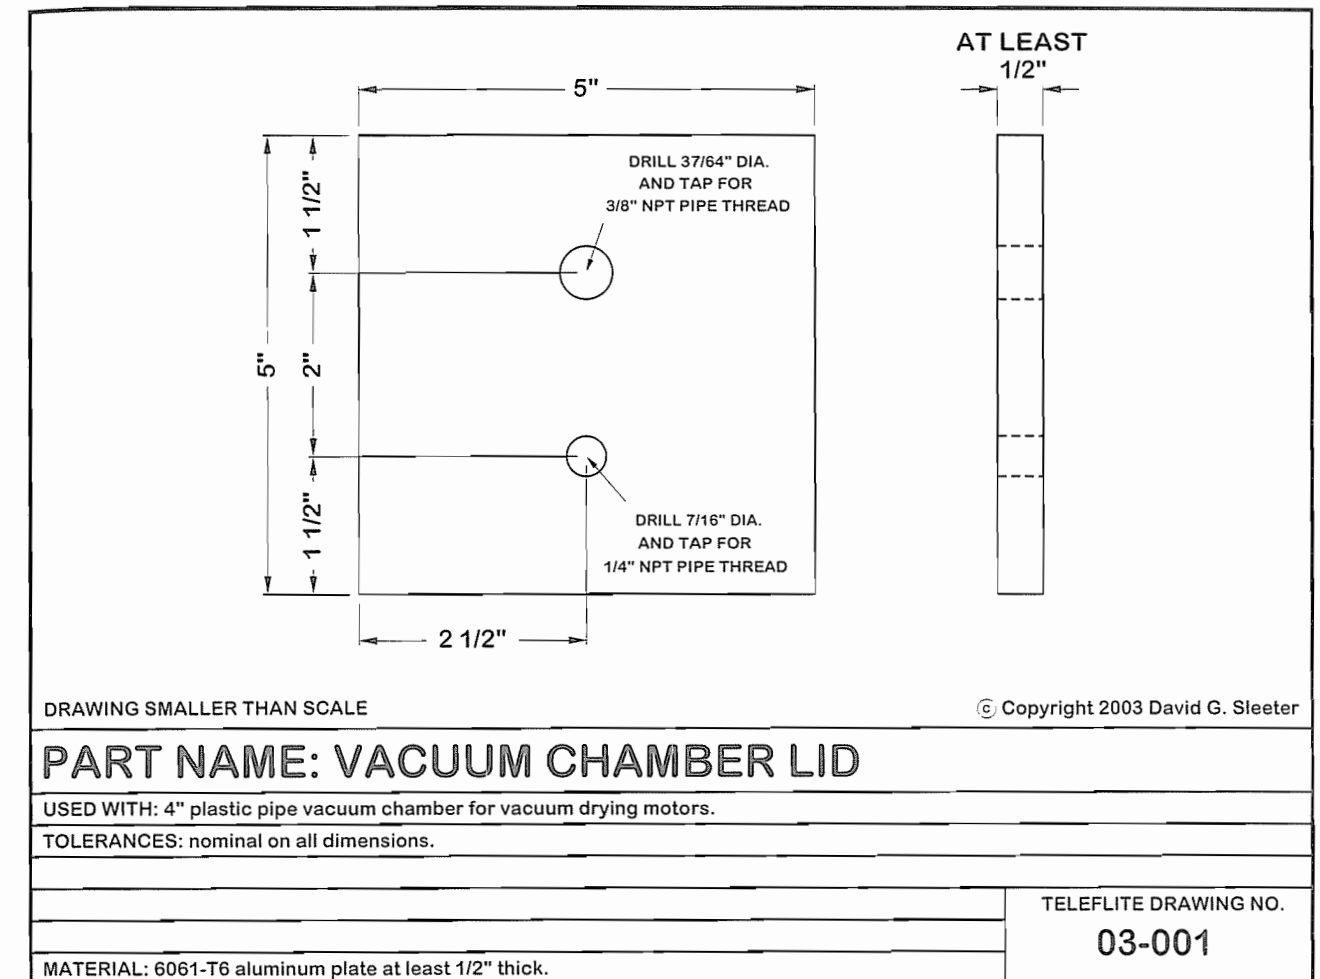
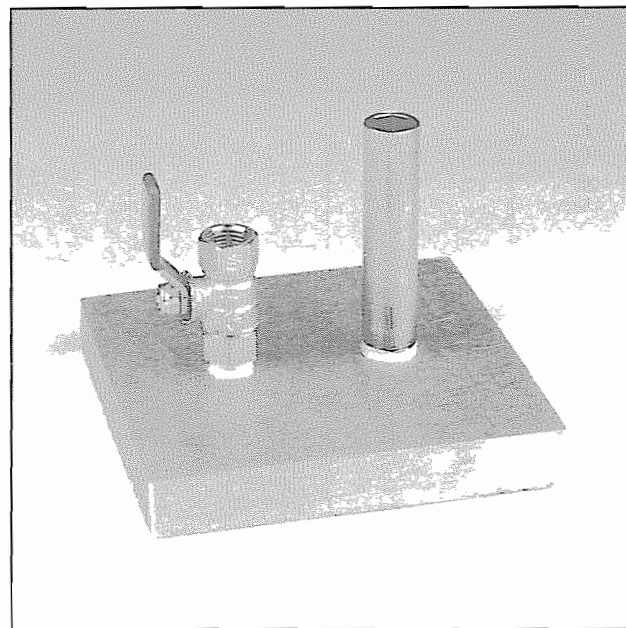

Figure 4-73. The shop drawing for the vacuum chamber lid.
Figure 4-74. The brass nipple and ball valve are screwed into the lid. Teflon plumbers tape insures a tight seal.
1. Make the aluminum lid per the drawing in **Figure 4-73**. Screw one end of the 1/4" x 1" brass nipple into the ball valve, and screw the other end into the matching hole in the lid. Saw the threads off one end of the 3/8" x 4" nipple, and deburr the cut end with a file. With a pair of "vise-grips" (aka "locking pliers"), screw the threaded end into the matching hole in the lid, and use Teflon plumber's tape on *all* threads to insure an airtight fit. **Figure 4-74** shows the finished assembly.